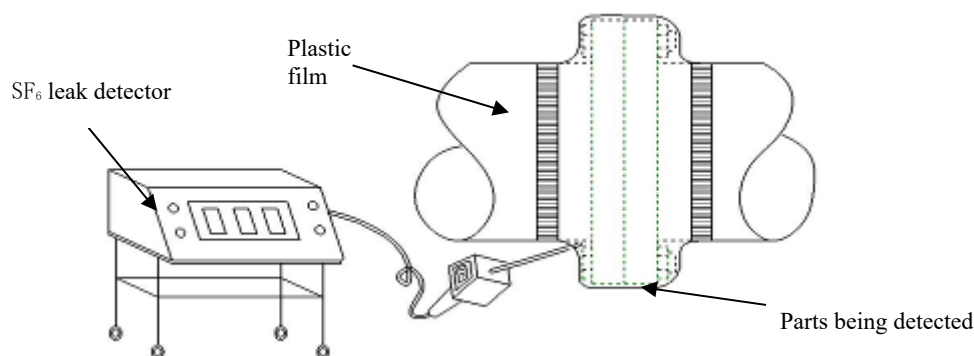

Figure 4 Schematic Diagram for Leak Detection of Air Tightness
3.3.1 Open a hole at lower position of the plastic film wrapping test object with size equal that of one-yuan coin, as shown in Figure 4. Start SF6 gas leak detector, stretch detection gun, and probe into wrapping cavity to detect the concentration of SF6 gas with probing depth being not less than 50mm. It shall be noted that the probe cannot contact the surface of test object, and the hole shall be sealed with adhesive tape after detection. The concentration of SF6 detected in wrapping cavity is recorded as K1.